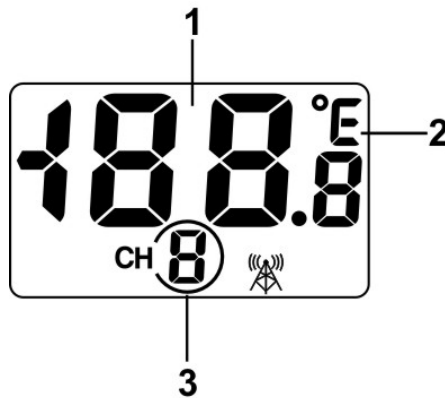

Figure 3
7. Verify the correct channel number (CH) and temperature units of measure ($^{\circ}\text{F}$ vs. $^{\circ}\text{C}$) are on the display, as shown in Figure 3.